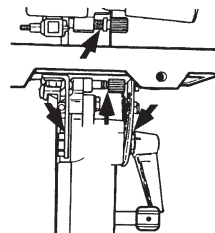

Fig. C-9
- threads of the upper blade guide's adjusting screws-Fig. C-9
- lower blade guide's adjusting screws-Fig. C-9
- trunnions-Fig. C-9